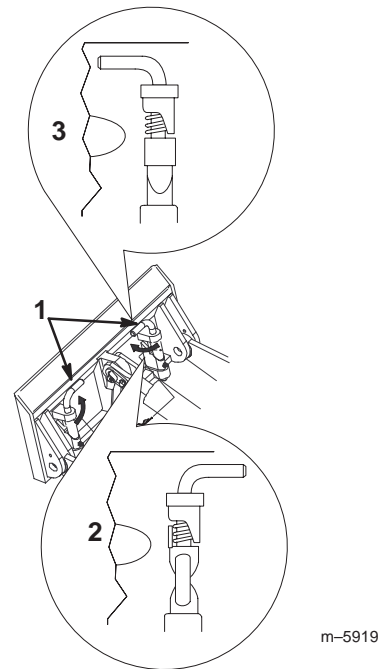

Figure 18
- Engage the quick attach pins, ensuring that they are fully seated in the mount plate (Fig. 18).